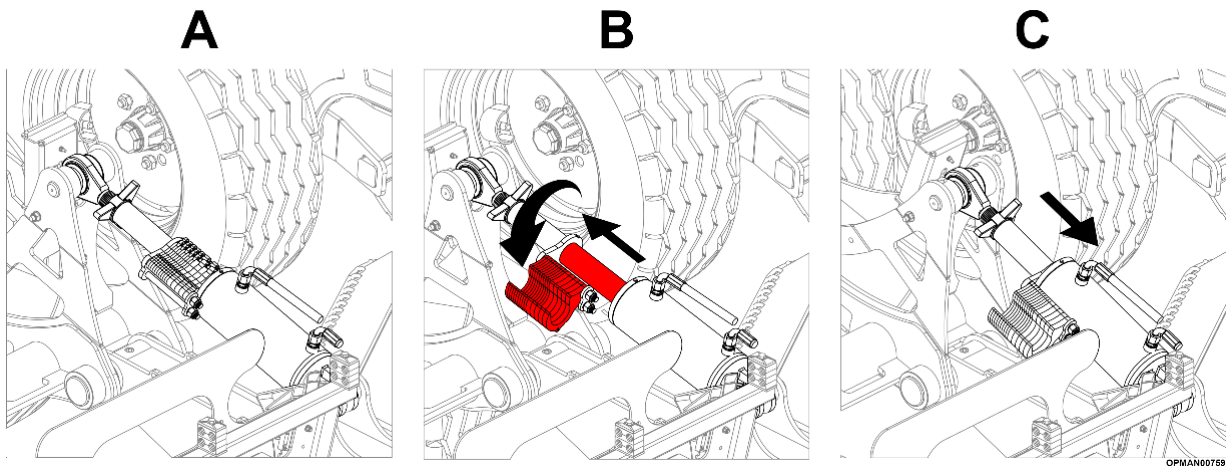

Figure 4.6
- 4.4.2.2 Ensuring the hoses are seated properly, enter the tractor cab and use the tractors hydraulic control levers/buttons to completely fill the centre and wing axle lift ram cylinders with oil and raise the machine to create a clearance between the end of the ram and the spacer; see Figure 4.6 (B).
- 4.4.2.3 Switch off the tractor engine off and ensuring the tractor parking brake is engaged leave the driver's seat and proceed to remove all the ram spacers from both of the centre axle lift rams; see Figure 4.6 (B).
- 4.4.2.9 Raise the machine fully. Switch off the tractor engine off and ensuring the tractor parking brake is engaged leave the driver's seat and proceed to **fit all 15 ram spacers** into both of the centre axle lift rams; see Figure 4.6 (A).